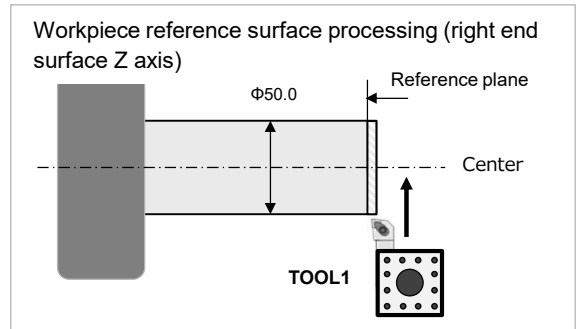

Fig.2
2. Make a reference plane on the right edge of the workpiece. Cut the right end face with a cutting tool by an appropriate amount. (Fig. 2)